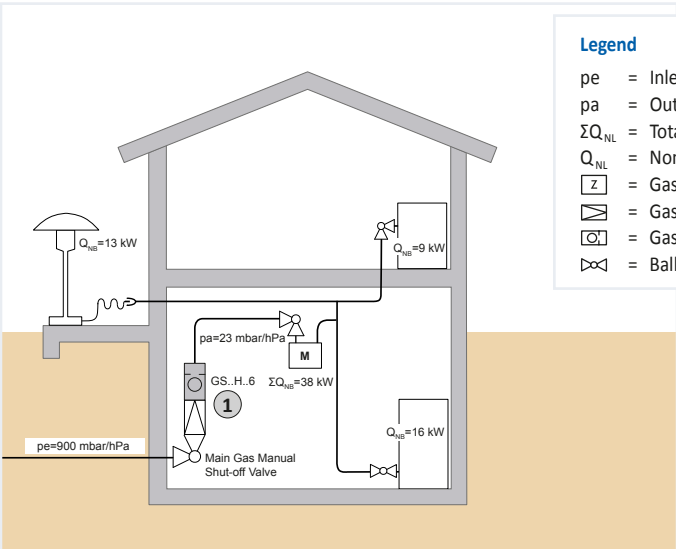

Figure 3: SENTRY GS in a single-family dwelling (supplied with natural gas)
In figure 3 a single EFV is required for an entire gas installation. It is recommended that the EFV be installed at the outlet of the gas pressure regulator (see Example 1 below).
- See ① in figure 3
- Result: ① in table 1 = GS..6 (GS..H.6...)